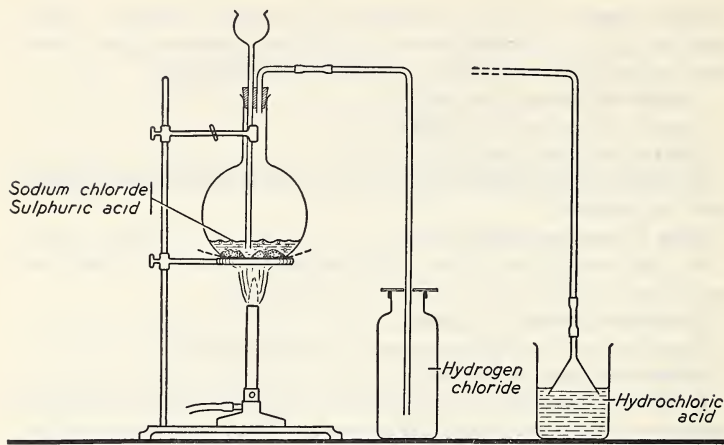

Fig. 67. The laboratory preparation and collection of hydrogen chloride.
1. Set the apparatus as shown in Figure 67. Put approximately four teaspoonfuls of sodium chloride into the flask and add just sufficient water to moisten it. Through the thistle-tube, add enough concentrated sulphuric acid to cover the end of the thistle-tube.